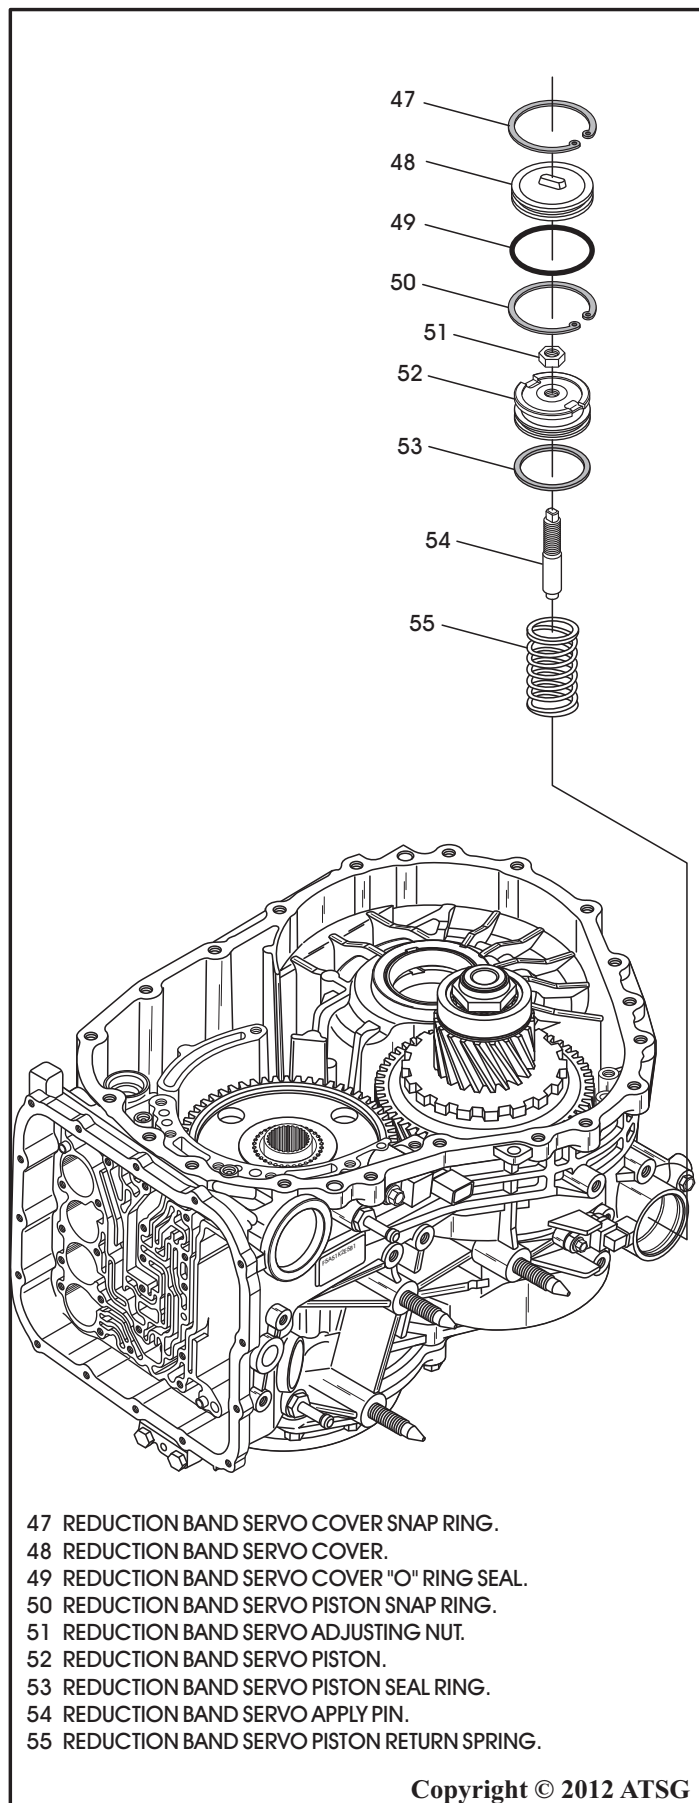

Figure 70
33. Remove the reduction band servo cover snap ring and cover, as shown in Figure 70.
34. Remove and discard the servo cover "O" ring seal, as shown in Figure 70.
35. Remove reduction band servo piston snap ring and piston assembly, as shown in Figure 70.
36. Remove and discard the servo piston seal, as shown in Figure 70.
37. Remove the reduction band servo piston return spring, as shown in Figure 70.